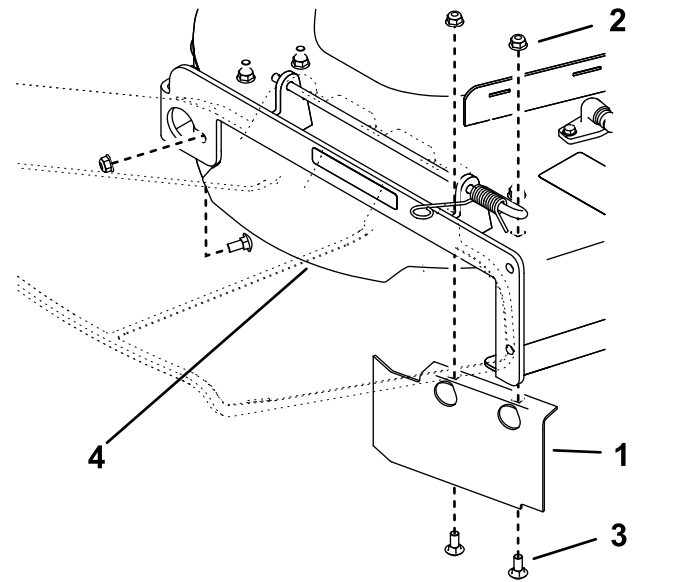

Figure 7
3. Install the baffle guard using 2 carriage bolts (5/16 x 3/4 inch) and 2 nuts (5/16 inch) as shown in Figure 7. Tighten the fasteners by hand.
4. Secure the rear wall of the right baffle to the mower deck using 1 carriage bolt (5/16 x 3/4 inch) and nut (5/16 inch) as shown in Figure 7.